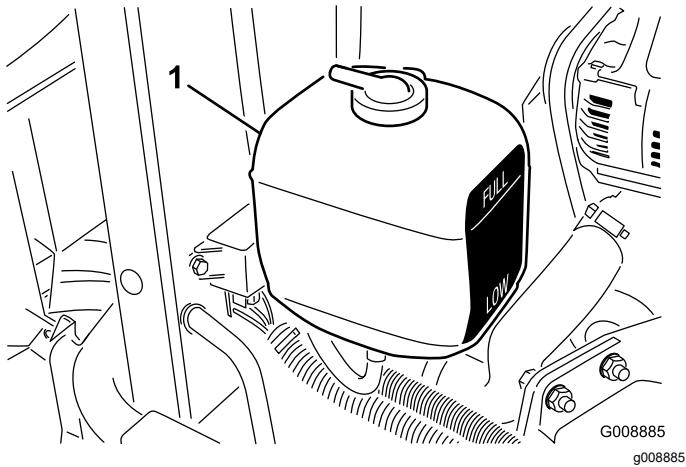

Figure 31
1. Check the coolant level in the expansion tank (Figure 31). With a cold engine, the coolant level should be approximately midway between the marks on the side of the tank.